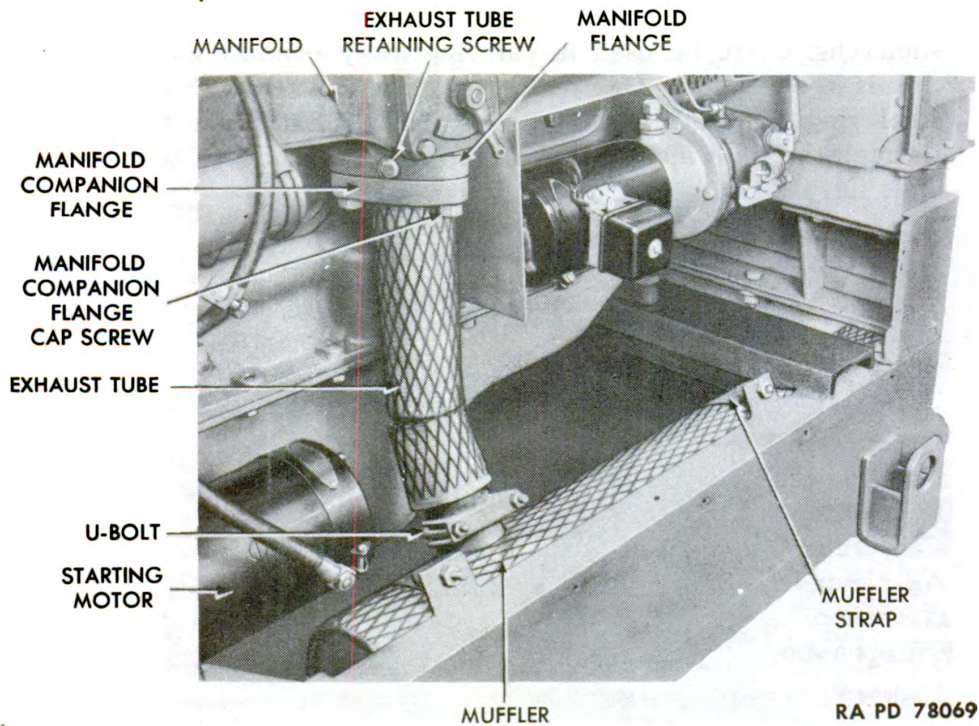

Figure 29 – Exhaust Tube and Muffler – Installed
a. Construction. The exhaust system (fig. 25) is made up of the exhaust section of the manifold, the tube connection between muffler and manifold, the muffler (fig. 29), and the flexible tube that is attached to the outside end of the muffler when the unit is in operation.
a. Description. An insulated exhaust tube (fig. 29) carries the exhaust gases from manifold to exhaust muffler. One end of this pipe fits through the manifold companion flange, through a ring gasket, and into the manifold lower flange. A horizontal hexagonal-head set screw through the manifold flange holds the tube firmly in place. The companion flange bolts to the manifold flange. The tube fits into the muffler through a collar provided with a tightening strap that holds the two securely together. The pipe is covered with woven asbestos sheeting, held in place by metal straps.
c. Removal (fig. 29).
- (1) Remove right-hand starting motor (par. 79 d).
- (2) Remove manifold companion flange cap screws. Remove manifold exhaust tube retaining screw. Remove exhaust tube from manifold flanges. If exhaust tube will not come free from manifold, the next operation will automatically release it.
- (3) Unscrew nuts at both ends of muffler strap screws, and remove straps, muffler, and exhaust tube assembly.
- (4) Loosen the two nuts on U-bolt which clamp lower end of exhaust tube to muffler. Pull muffler from tube.
d. Installation (fig. 29).
- (1) Position U-bolt around split flange on muffler. Position lower end of exhaust tube in split flange and tighten nuts on U-bolt.
- (2) Position muffler and exhaust tube assembly in unit. Be sure upper end of exhaust tube fits up into manifold flange. Install exhaust tube retaining screw. Position companion flange on manifold flange and install the three manifold companion flange cap screws.
- (3) Insert ends of muffler strap screws through screw holes in muffler brackets which are welded to frame. Install both strap screw nuts.
- (4) Install starting motor (par. 79 e).
a. Construction. The exhaust muffler (fig. 29), a long steel cylinder, is strapped to the frame at the right of the engine. Near the rear of the muffler, a split sleeve fitting is welded to the jacket. A U-bolt is provided around the split sleeve for holding the muffler to the exhaust pipe. The front end is fitted with a 2-inch pipe extending beyond the muffler to receive the flexible exhaust tube. Asbestos sheeting covers the entire muffler.